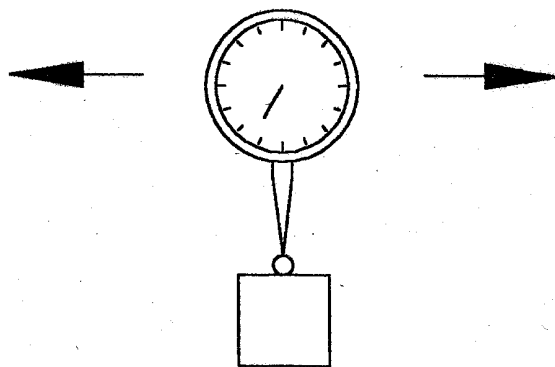

FIG. 6-1D
3. FIX 1 DIAL GAUGE ON THE WORK TABLE (FIG. 6-1D), AND MOVE X,Y AXIS FOR CHECKING IF THERE IS ANY DEVIATION OF HORIZONTALLY .